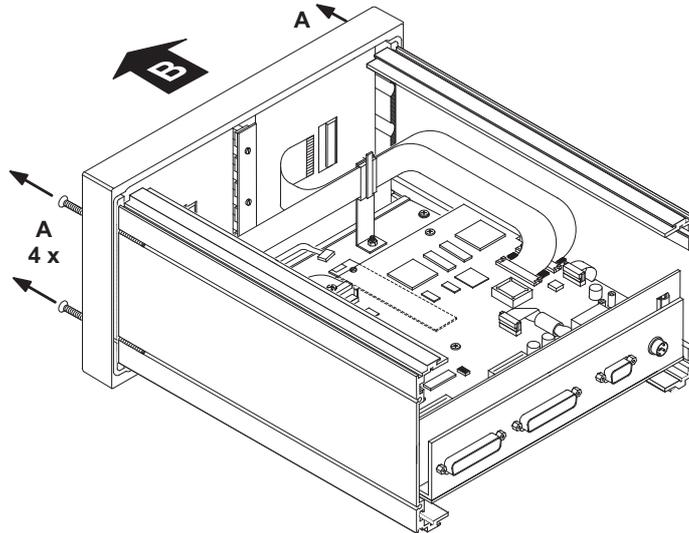

Fig. E 8-27: Removing and upending the front panel
3. Remove with a suitable screw driver the Philips screws from the front side of the unit (See Fig. E 8-27, A).
4. Upend the front panel on the work bench (see Fig. E 8-27, B).